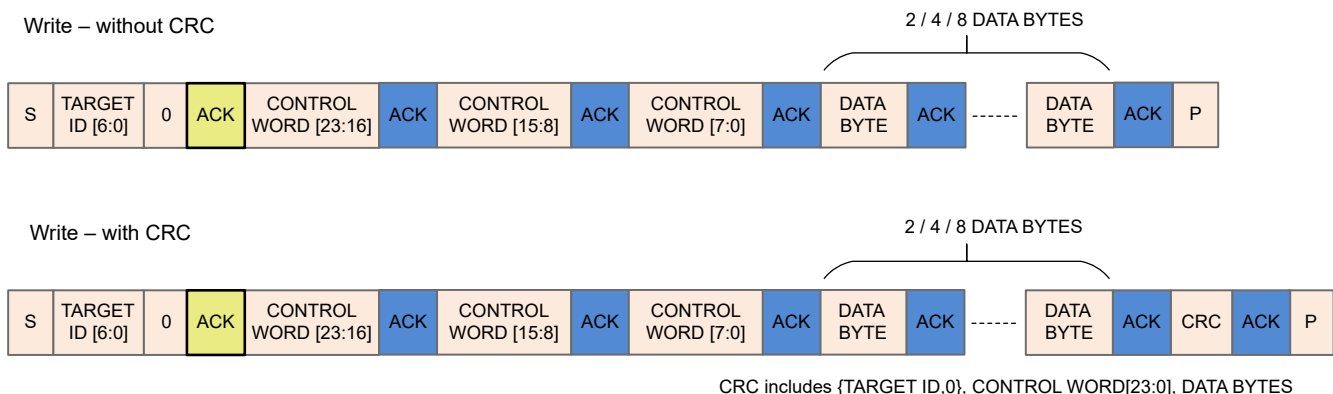
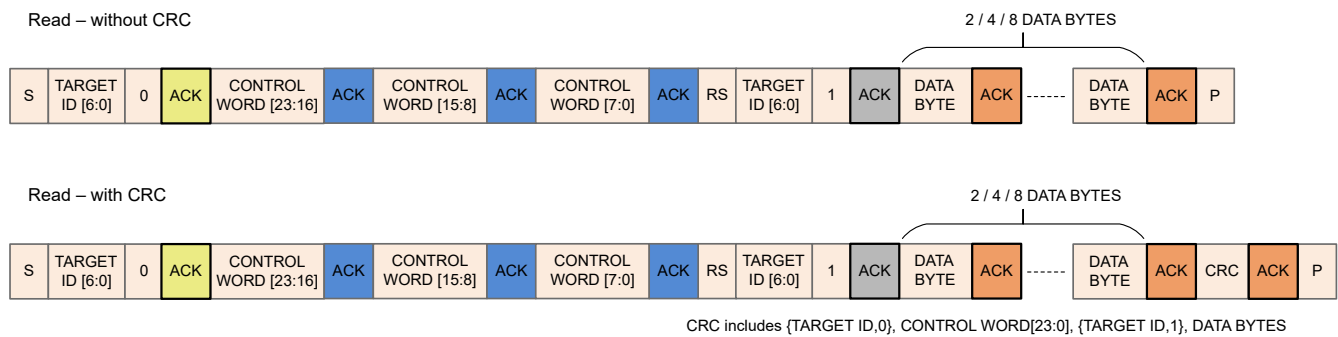

Figure 6-55. I²C Write Transaction Sequence
Figure 6-56. I²C Read Transaction Sequence
MCF8315C write transaction over I²C involves the following sequence (see Figure 6-55).
MCF8315C read transaction over I²C involves the following sequence (see Figure 6-56).
- When target ID is a match, I²C peripheral in MCF8315C raises a start interrupt request. Until this start interrupt request is processed, clock is stretched. Upon processing this request, clock is released and an ACK (marked in yellow or grey in Figure 6-55 and Figure 6-56) is sent to the controller for continuing with the transaction.
- Receive interrupt pending:** When a receive interrupt is waiting to be processed and the receive register is full which occurs when two successive bytes (data or control) have been received by MCF8315C (separated by one ACK shown as blue boxes in Figure 6-55 and Figure 6-56) without the receive interrupt generated by the first byte being processed. Upon receive of second byte, clock is stretched until receive interrupt generated by the first byte is processed.